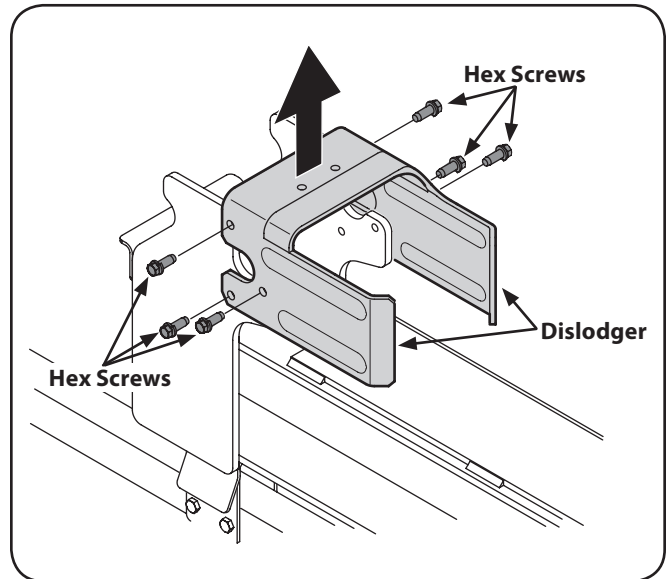

Figure 3-4
14. Disconnect the dislodger from the beam weld bracket by removing the six hex screws. See Figure 3-4.
17. Attach the dislodger over the wedge assembly and secure it to the weld brackets with the previously removed hardware. See Figure 3-4.